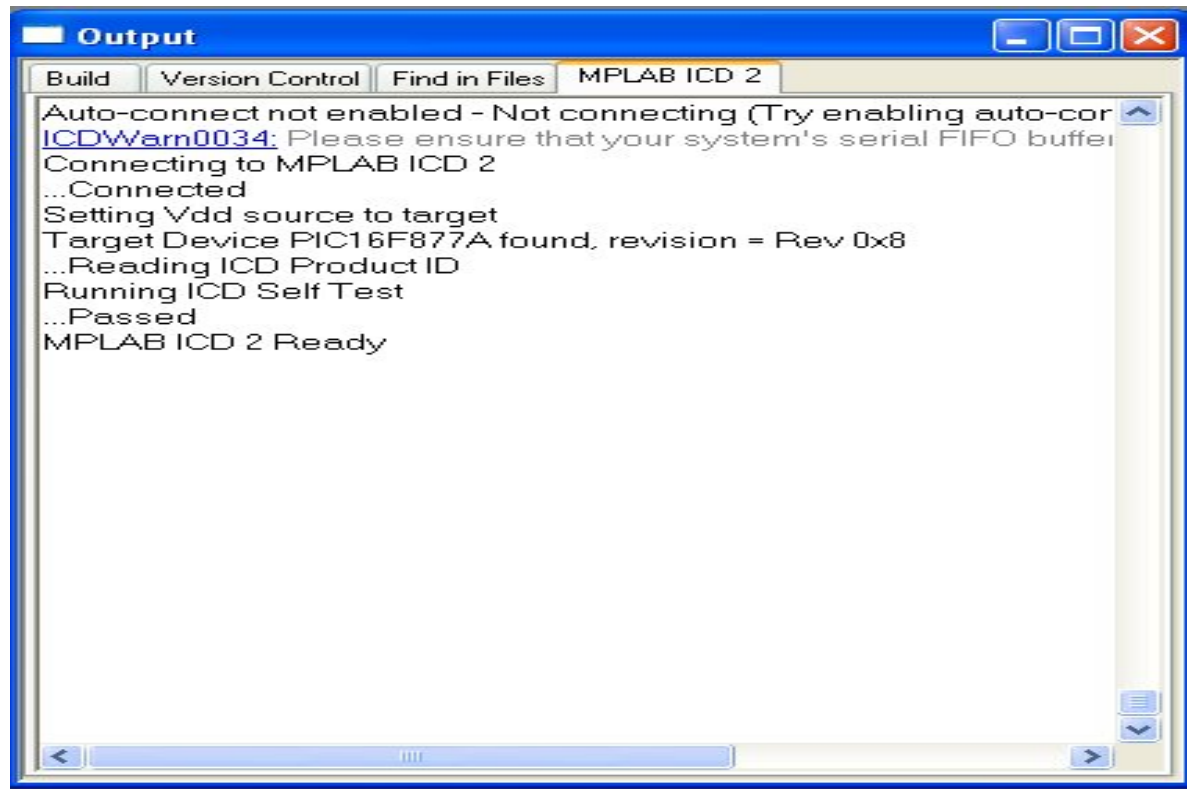

Figure 15: Connect ICD2 as programmer
- Now it's time to connect the ICD2 as a Programmer: *Programmer* → *Connect* (Fig. 15)